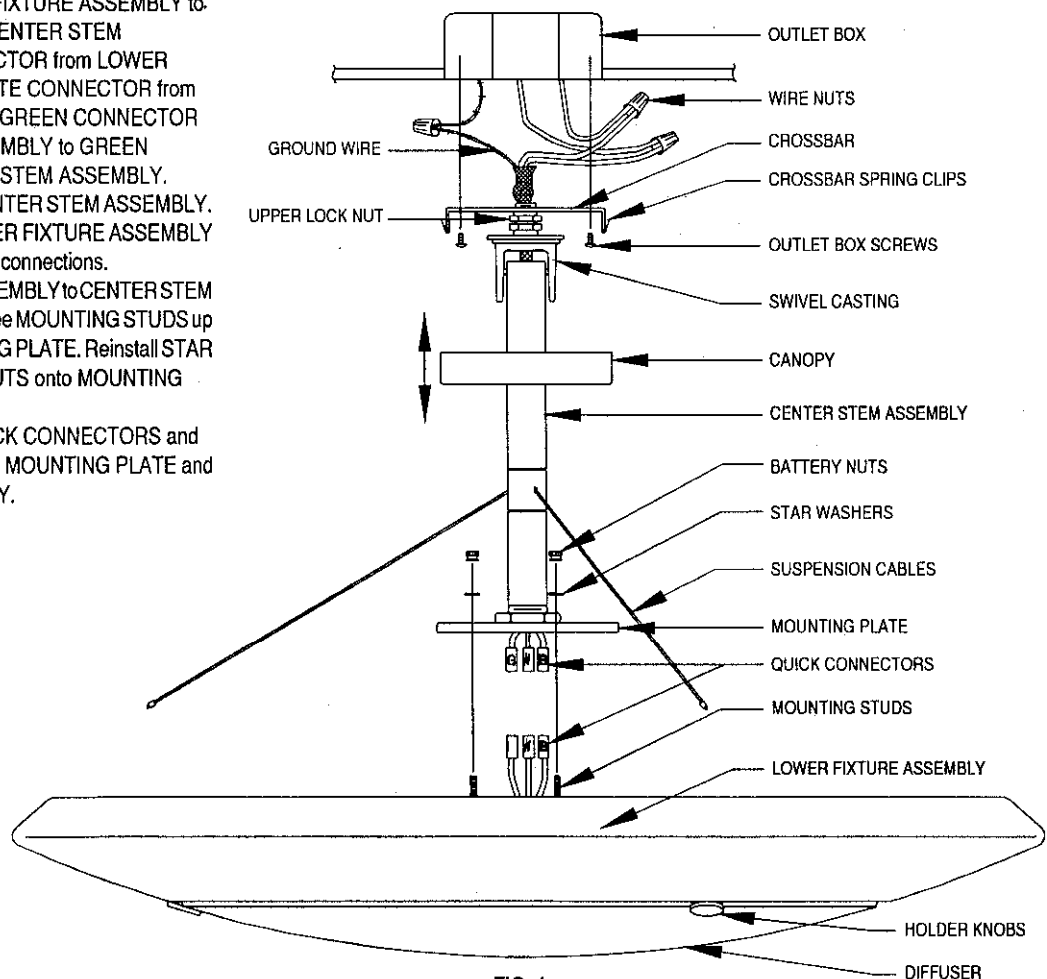

FIG. 1
2. From below fixture, push up on one side of the DIFFUSER and allow the opposite to drop down passed HOLDER KNOB (Fig. 1).